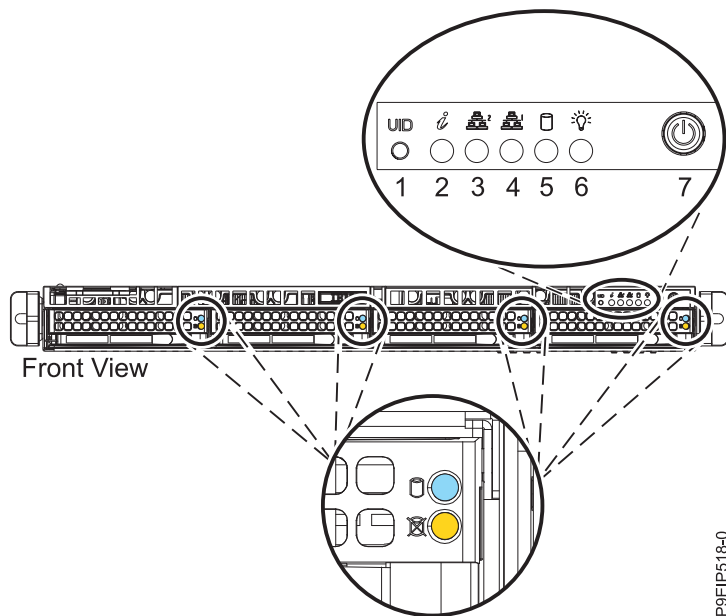
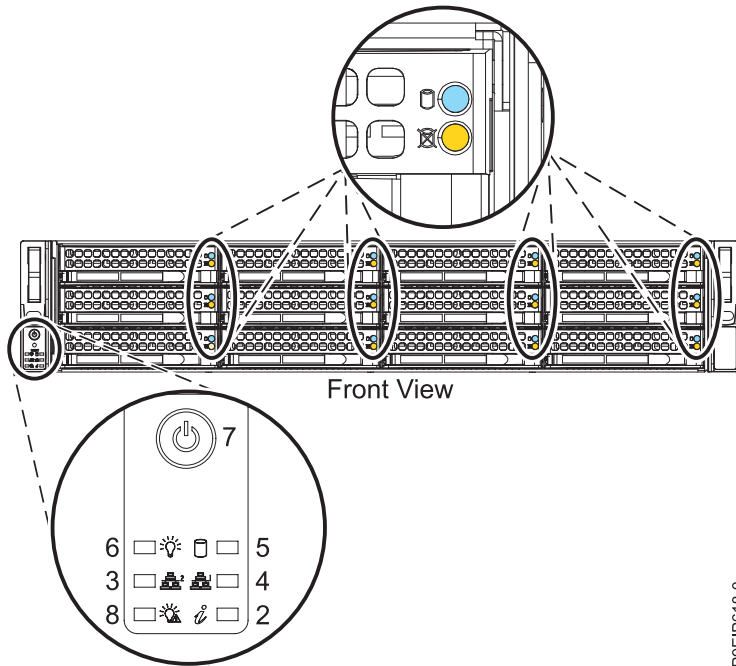

Figure 66. Power switch for 9006-12C
Figure 67. Power switch for 9006-22C
2. Press the power button (7) shown in Figure 66 or Figure 67 on page 110. You may have to press the switch for 0.5 to 3 seconds.